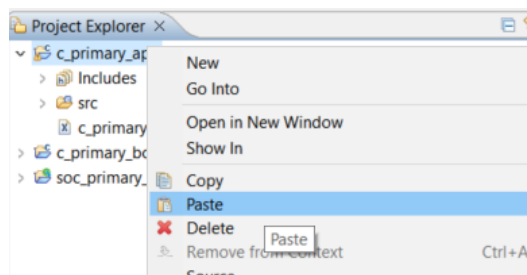

Figure 8.19. Paste in FreeRTOS C project
20. Paste it in your main `c_primary_app` project as shown in Figure 8.19.